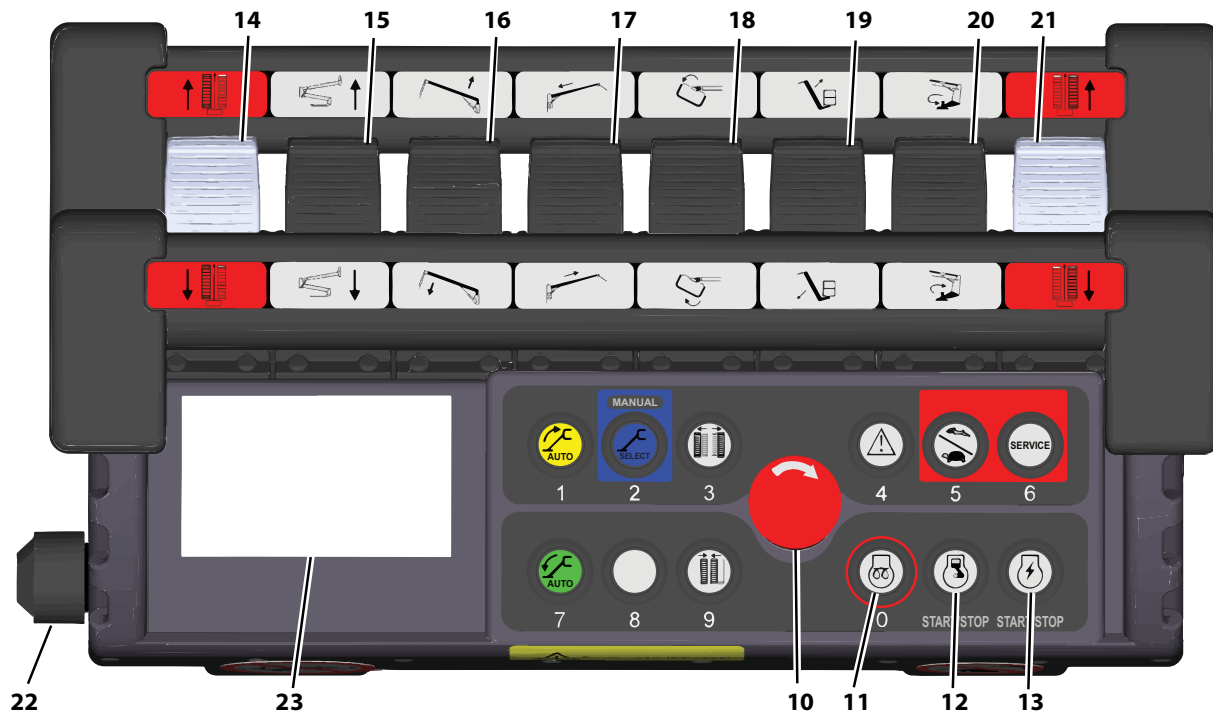

Figure 3-4. Platform/Remote Control Station
See Figure 3-4. Platform/Remote Control Station
At machine start-up and during machine operation the main LCD display screen (item 14 - Figure 3-4.) is activated. There are eight (8) display positions which indicate machine status during various stages of operation.